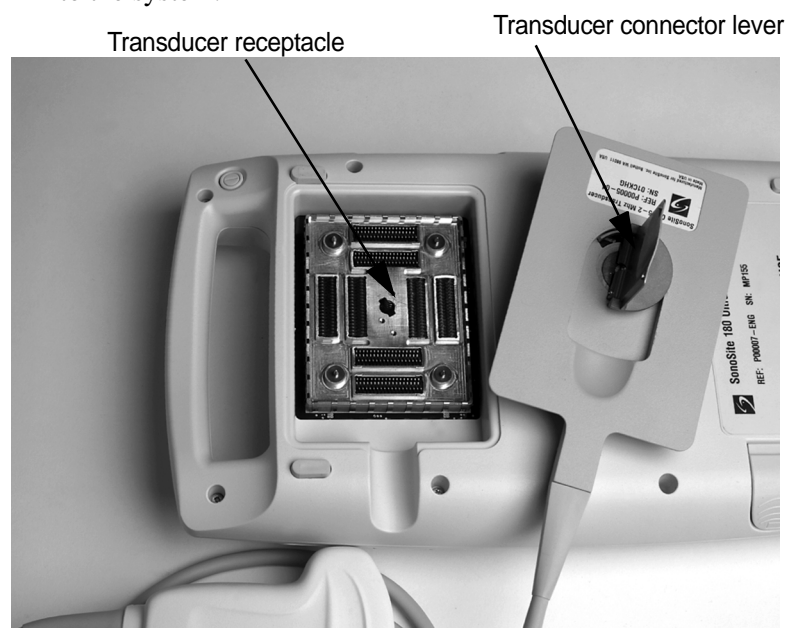

Figure 4.1 Connecting the Transducer
1. On the transducer connector, pull the lever up and rotate it clockwise until it snaps to a stop (Figure 4.1). The lever should be easy to move. Do not force the lever.
1. On the transducer connector, pull the lever up and rotate it clockwise until it snaps to a stop (Figure 4.1).